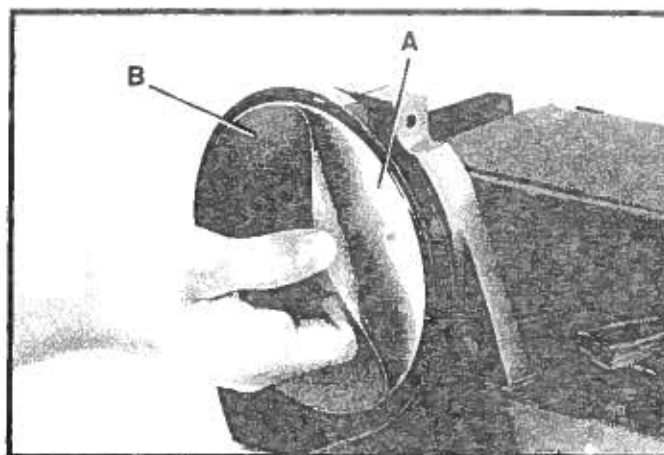

Fig. 9
1. Make sure sanding disc plate (A) Fig. 9, is clean.
2. Peel backing from sanding disc and press disc (B) firmly into position all the way around the sanding plate, as shown in Fig. 9.